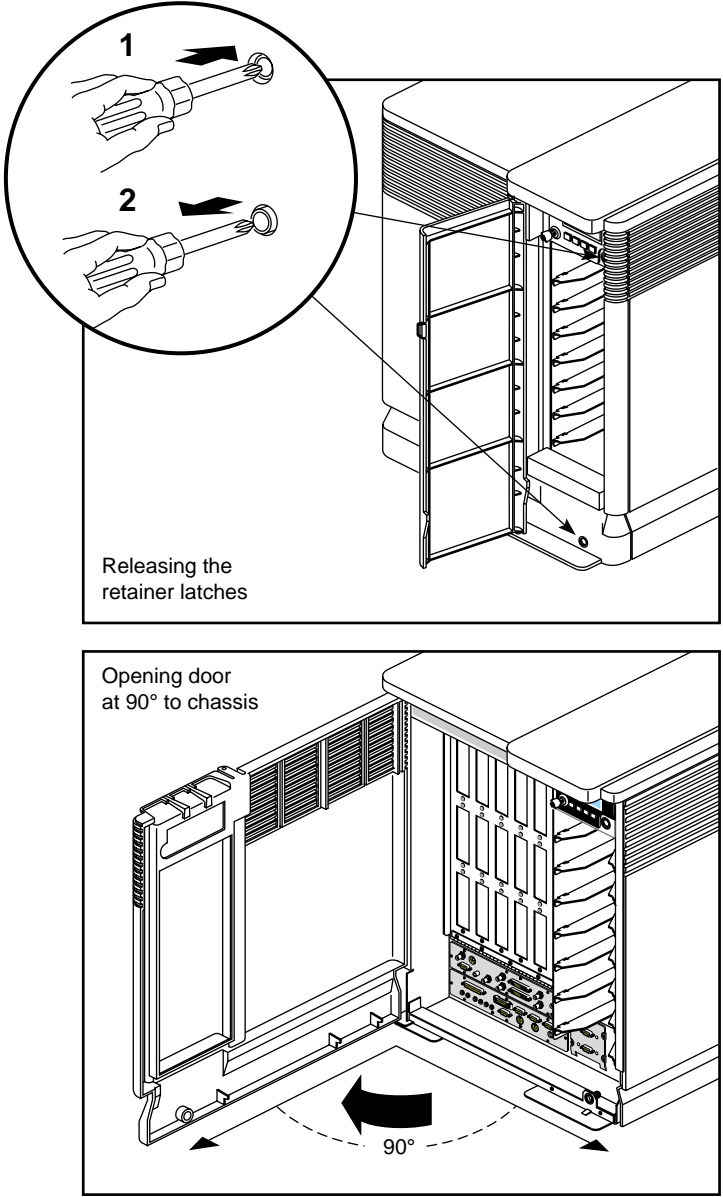

Figure 3-2 Opening the Chassis Front Door
3. Release the two retainer latches by fully depressing and releasing each latch with a pointed object, such as the tip of a Phillips screwdriver; be careful not to mar the surface. The pointed object must be narrow enough to depress the inner button completely. Figure 3-2 shows the latch location and operation.